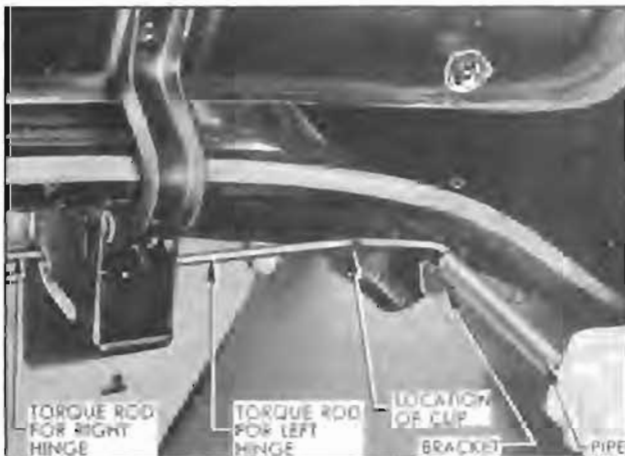

Figure 13-11—Removing Hinge Torque Rod
3. Place a short length of pipe over outer end of torque rod and lift the rod up and toward center of body to release it from the bracket. See figure 13-11.